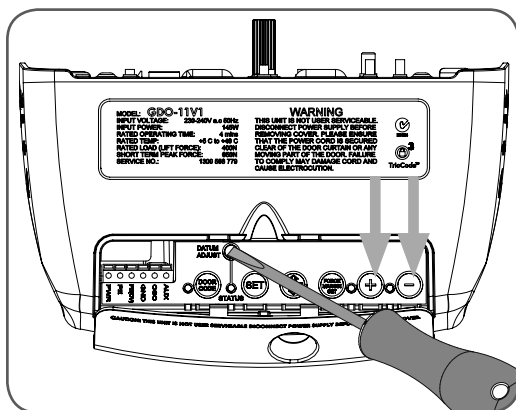

fig 29
- Using a small screwdriver, turn the DATUM ADJUST screw until the STATUS LED comes on (**Fig 29**).